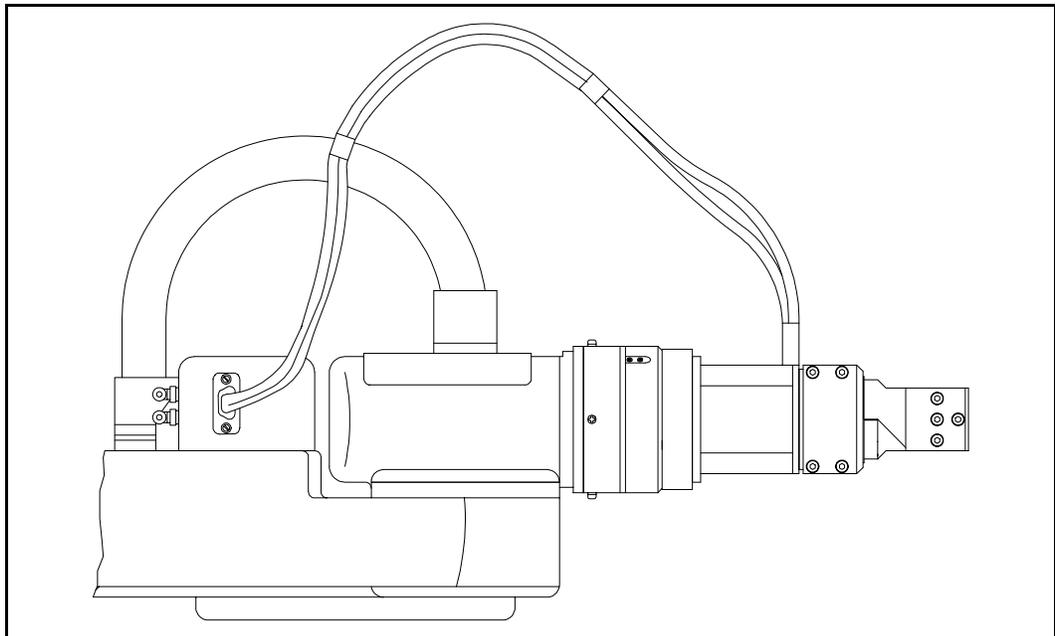

Figure 4-8: DC Servo Gripper Cable Connection (top view)
6. Connect the two hoses from the gripper to the nipples on the robot's forearm (refer to Figure 4-8).
7. Gently connect the gripper cable to the D9 connector on the robot arm, as indicated in Figure 4-8. Make sure the gripper cable is positioned as shown in Figure 4-8.
10. At the end of each work session (before turning off the controller), or before homing the robot, make sure the gripper's position is as shown in Figure 4-8.